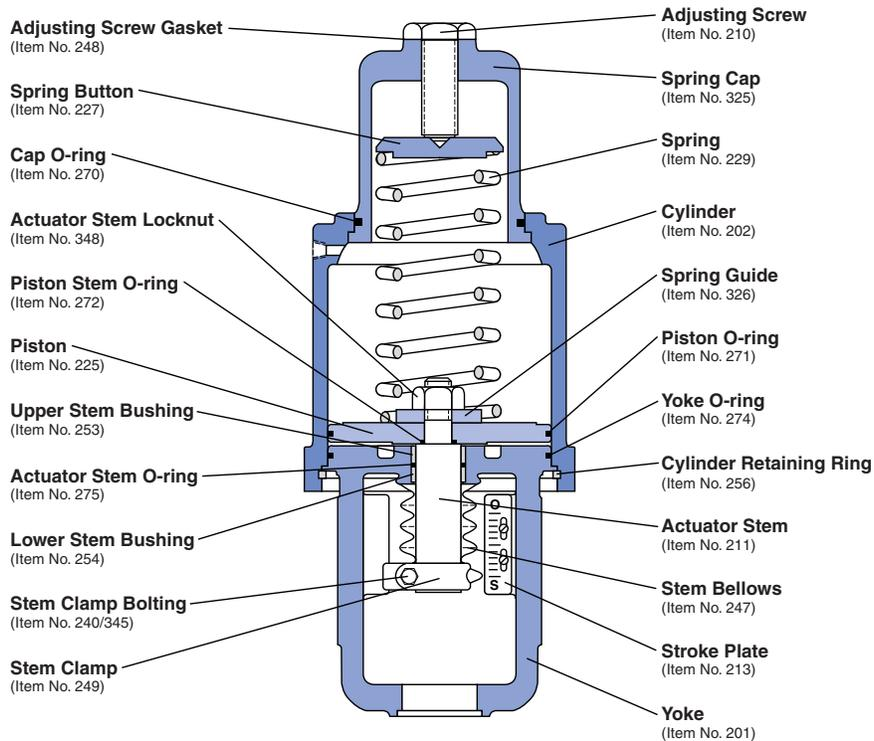

Figure 4: Cap-spring Cylinder Actuator
6. For heavy-duty spring designs using a spring cap (see Figure 4), remove the spring cap and cap O-ring from the cylinder.
7. Replace the cap O-ring and install the spring cap in the cylinder when using heavy-duty spring designs using spring caps (see Figure 4).